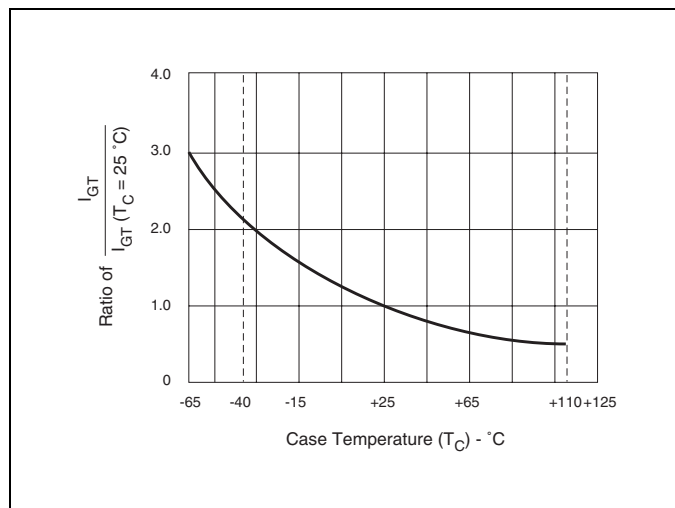

Figure E1.7 Normalized DC Gate Trigger Current for All Quadrants versus Case Temperature
- (6) See Figure E1.7 for I_{GT} versus T_C.